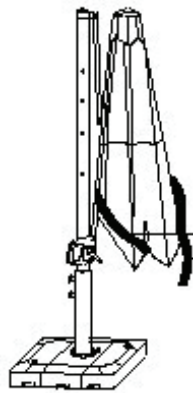

Fig. 5
Step 1. Unfasten the storage straps around the canopy as shown in Fig. 5.